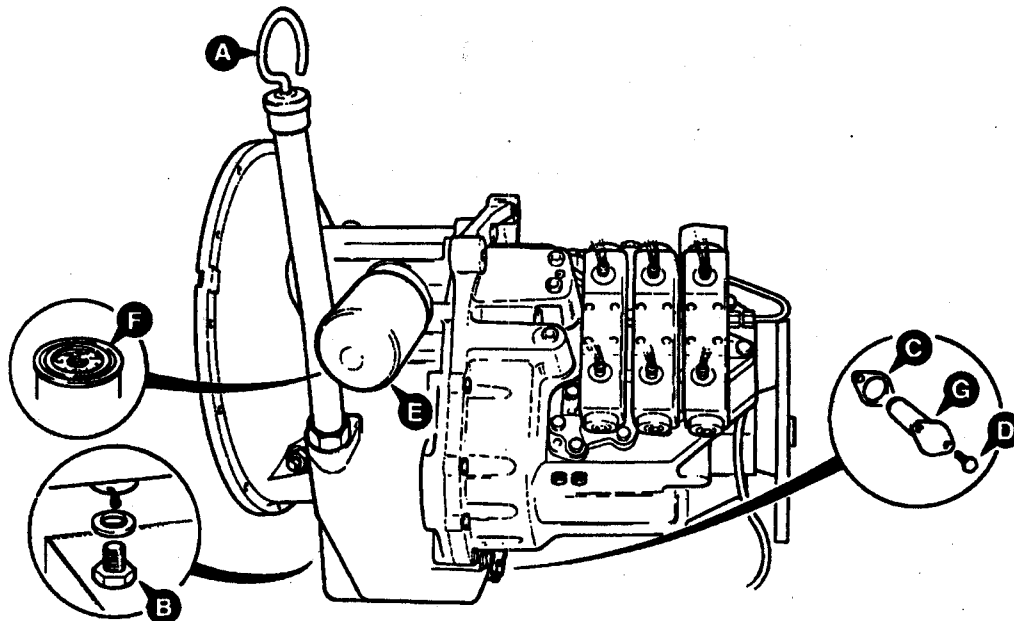

Figure 1. Maintenance Points
Check Oil Level - (See Figure 1)
Change Oil & Clean Strainer - (See Figure 1)
4. Remove drain plug B, Figure 1 and drain oil.
Filter Replacement (See Figure 1)